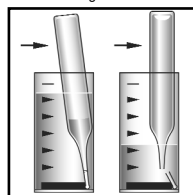

Figure 2
3. Place the Vacu-vial ampoule, tip first, into the sample cup. Snap the tip. The ampoule will fill leaving a bubble for mixing (fig. 2).